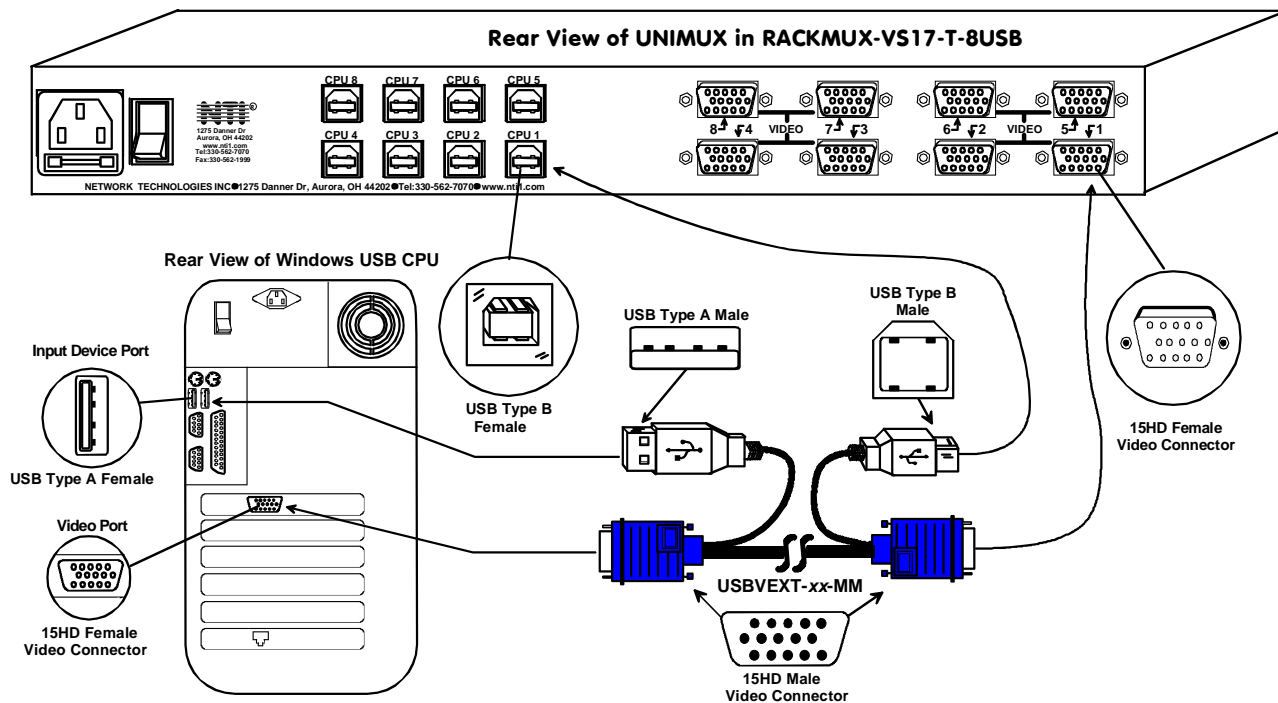

Figure 3- Connect each CPU
1. Connect each CPU to the UNIMUX switch using a USBVEXT-xx-MM video and input device interface cable – REQUIRED (not supplied). (See Fig. 3)